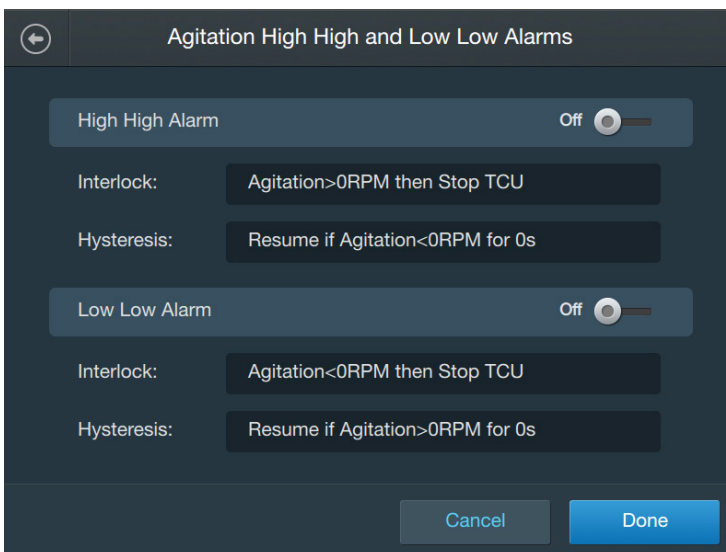

Figure 3.20. High High and Low Low alarms screen.
8. On the screen that appears (Figure 3.20), there will be separate sections for both High High and Low Low alarms. Slide the Enable/Disable buttons on each section to the “Enable” side to enable the alarms.